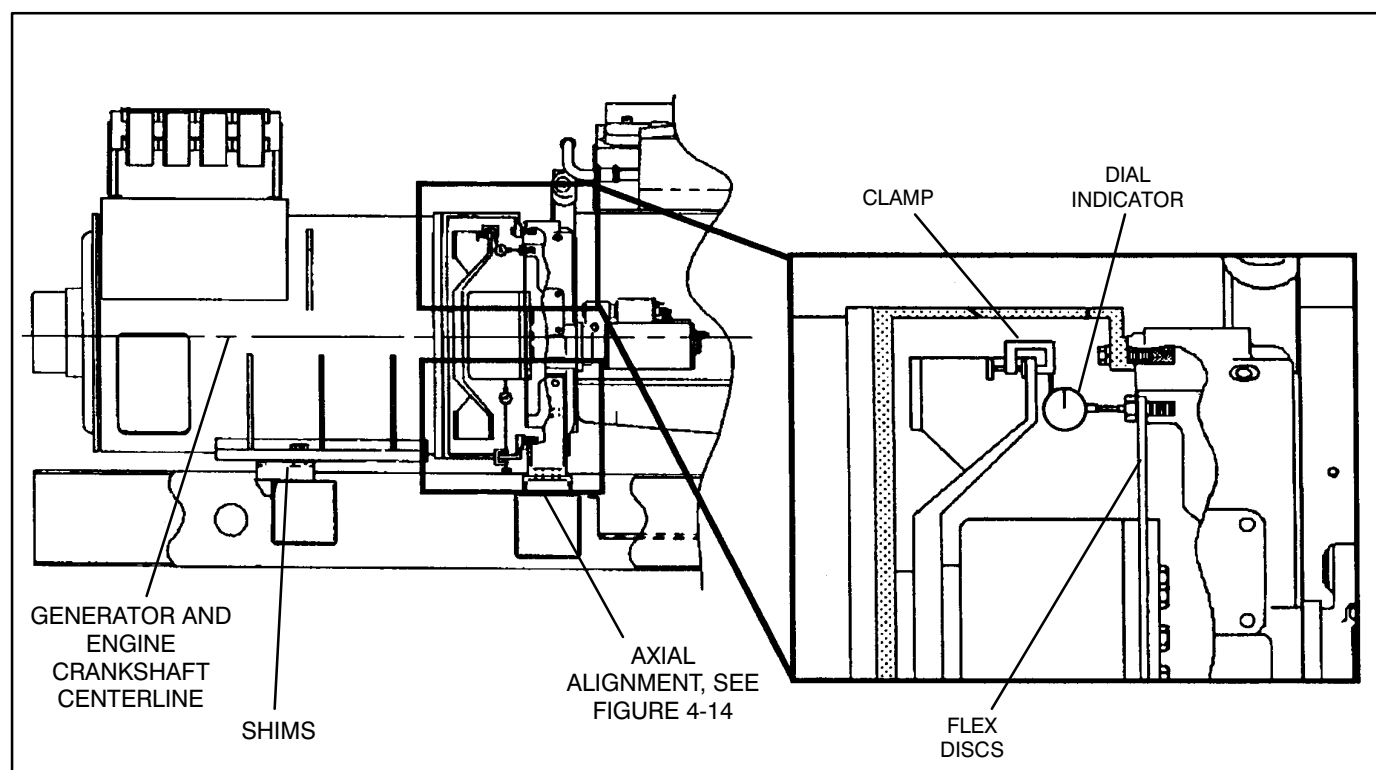

FIGURE 4-12. ANGULAR ALIGNMENT MEASUREMENT
disc at the bolt circle diameter, see Figure 4-12. Bar the engine over in a clockwise rotation as viewed from engine flywheel. Do not allow it to roll back on compression at the end of the travel of each reading. It is unnecessary to zero the indicator since the total indicator reading (T.I.R.) of the deflection measurement to the bolt heads is what is required. T.I.R. will be the sum of the maximum positive and negative dial indicator readings as the engine completes one revolution.
2. Measure the distance from the generator side of the flex discs to the center of the generator mounting bolt, refer to Figure 4-12. (For example; a HC6 Frame's distance is 28.4".)